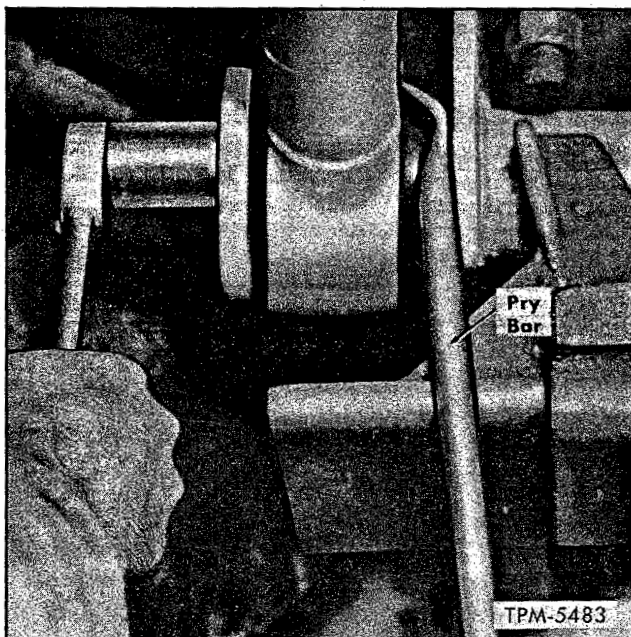

Figure 12—Tightening Radius Rod Cap Screws
c. At axle, use a pry bar to force radius rod end out toward anchor pin washer (fig. 12) while tightening anchor pin cap screws. Do not pinch edge of bushing with pry bar. Secure cap screw with lock wire threaded through head of cap screws.